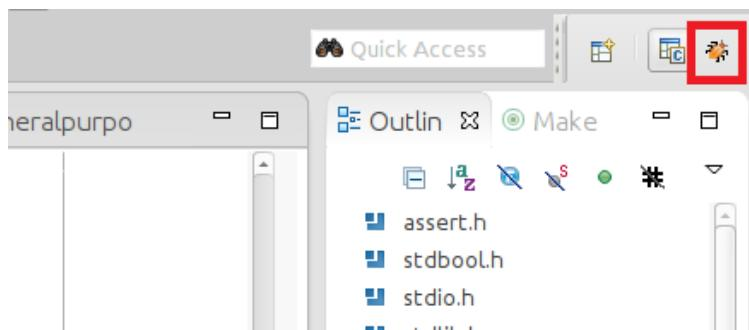

Figure 8-38. Switching to the DS-5 Debug Perspective
22. Switch to the DS-5 Debug perspective, as shown in Figure 8-38.